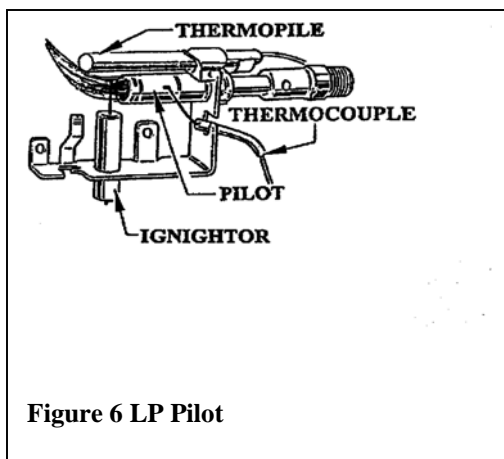

Figure 6 LP Pilot
Once connected to the gas supply the gas inlet pressure and manifold gas pressure must be tested. The supply line must include a manual shut-off valve and union so that the unit can be disconnected for servicing. The gas control valve has built in pressure taps for test gauge connections (#'s 6 & 7 in Figure 6). The supply line pressure must be tested to ensure it meets the minimum pressure for the type of fuel in use (NG or LP).
Pressure Measurements: To measure the pressure of gas directly upstream of the supply connection, connect a manometer to the gas inlet tap(6) and manifold pressure tap (7) in Figure 6